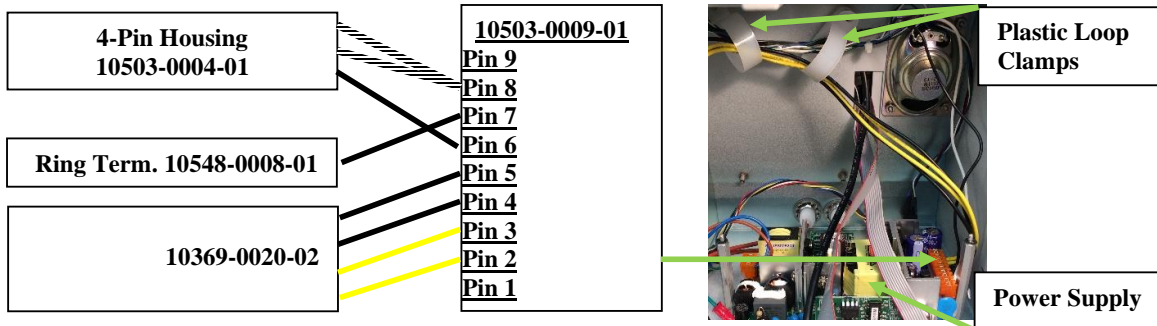

Figure 52
- 20.2. Crimp the 9-pin .156" Housing(10503-0009-01) to the black wire of 4-pin housing from the Motherboard Power Cable (made in Step 8), the 18AWG Black Wire from the previous step, and the MB80580 Power to Wire Cable (10369-0020-02) as shown in Figure 52 (left). Crimp the white wire from the 4-pin housing of Motherboard Power Cable to pin 8 of the 9-pin housing. Connect the Housing to the Power Supply as shown in Figure 52 (right). All wires mentioned in this step, except the Ring Terminal, should be draped through the Plastic Loop Clamps.